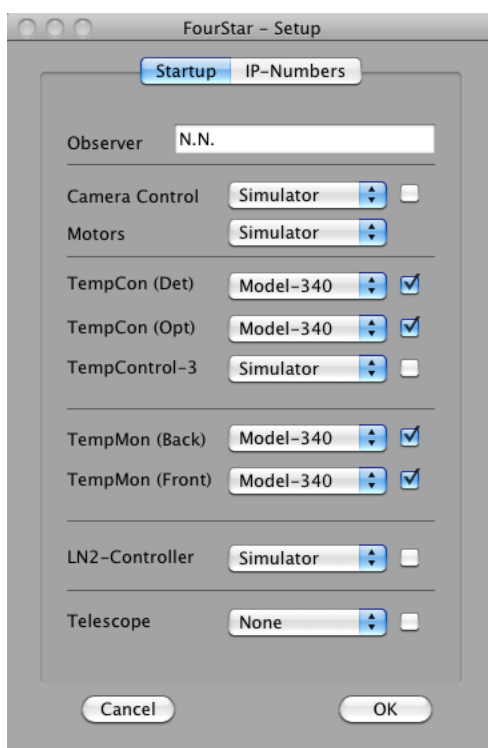

Fig. 7. Setup screen for *Passive Warmup*.
3.6.3 Start up the FourStar software on the control Mac, selecting the functions shown in Fig 7. It should be most convenient to do this sitting in the equipment room and using the monitor in the main rack there.